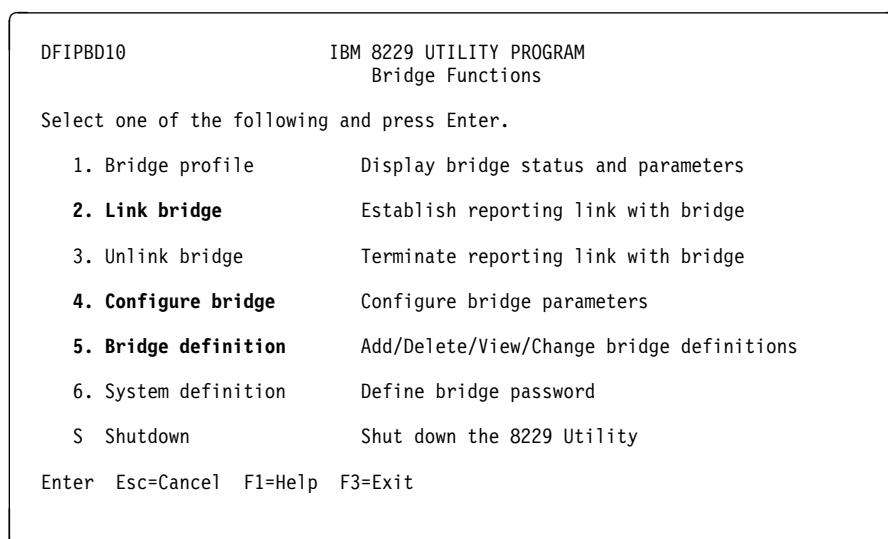

Figure 2-16. IBM 8229 Utility Program Main Menu
- 1) ____ Refer to Figure 2-16, select option **5. Bridge definition**, then press **enter**.